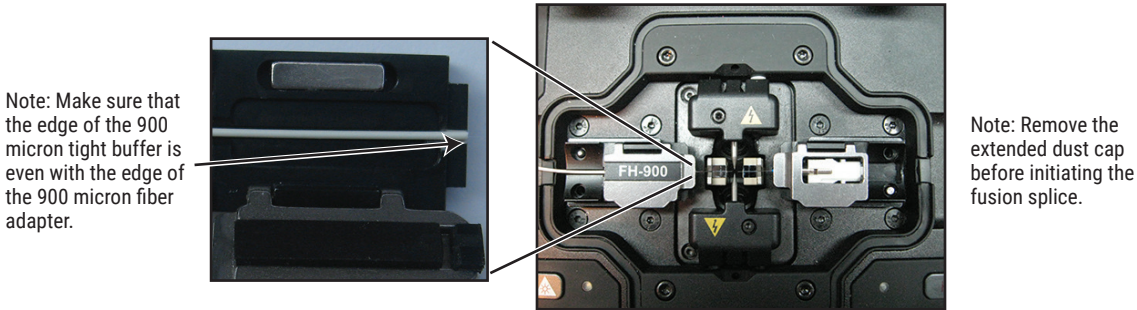

Figure 6
5. Insert the holder into the right-hand side of the splicer (Figure 6), making sure that the fiber stub lays properly into the V-groove block of the splicer. You may use the fiber positioning tool to help align the fiber in the V-groove. The fiber for FC and ST splice-on connectors must have the fiber laying in the end of the fiber groove in the V-groove. The fiber positioning tool can be used to align the fiber with the V-groove. Turning the fiber and/or the connector may also be necessary to accomplish this. The FC/ST fiber adapter may also need to be twisted slightly to ensure that the fiber is aligned with the V-groove.